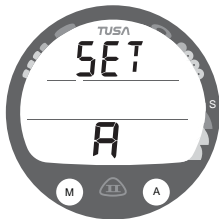

Fig. 18 - SET A (Alarms)
- > Depressing the A and S buttons simultaneously for 4 seconds while the NORM (or GAUG) Surface Main screen is displayed will access the Set A screen (Fig. 18).